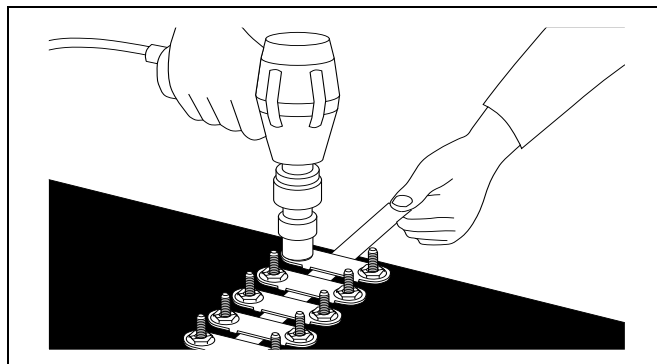

Figure 4L
9. Pull tape tight and hold in position by tightening a fastener at each end of the splice. Then snug down all other plates. (See Figure 4L.)